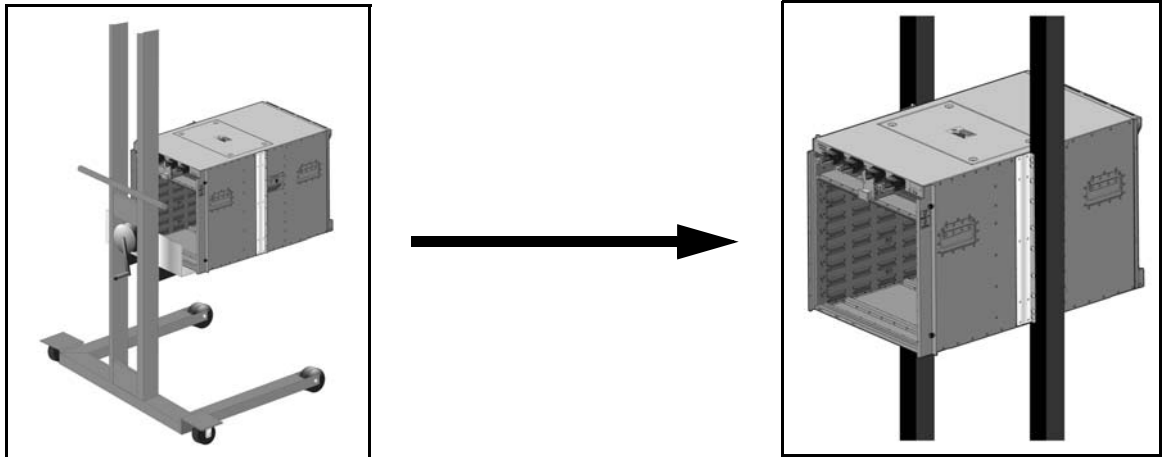

Figure 2: Lifting the Switch Chassis into the Two Post Rack
Step 1 Move the chassis to the rack using a mechanical lift (Figure 2).
Step 2 Lift the chassis into the rack. Position the flanges against the rack posts (Figure 2).